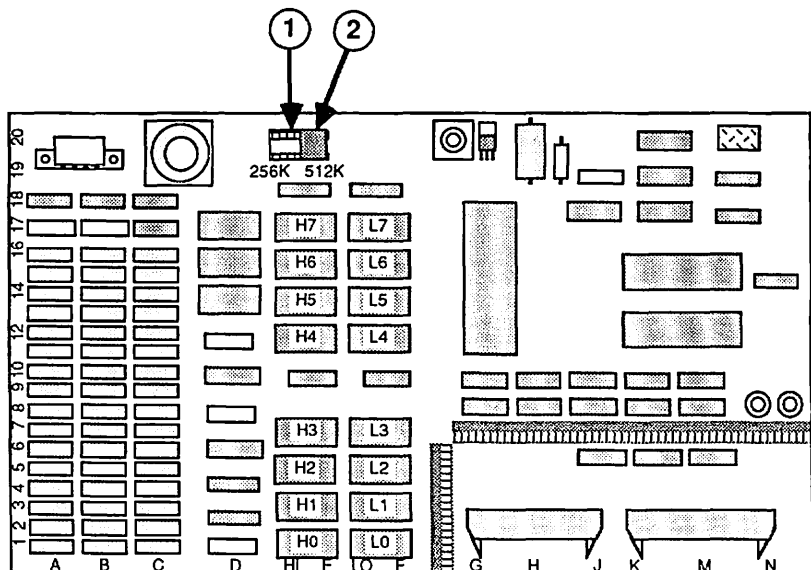

FIGURE 1
3. Remove the top cover of the LaserWriter and the card cage cover. Disconnect the cables attached to the I/O board and remove the board from the card cage. Place the I/O board on the grounded workbench pad. Orient the board so that it appears as in Figure 1. (Refer to the LaserWriter Technical Procedures, Section 2, Take-Apart for detailed safety and take-apart information.)
5. The upgrade kit includes a 16-pin socket that you must solder at position E-20 (See Figure 1, #1) if the socket is not present. To install the socket, follow the directions below:
6. Install the configuration block (see Figure 1, #2) into the right eight holes of the socket (labeled "512K").